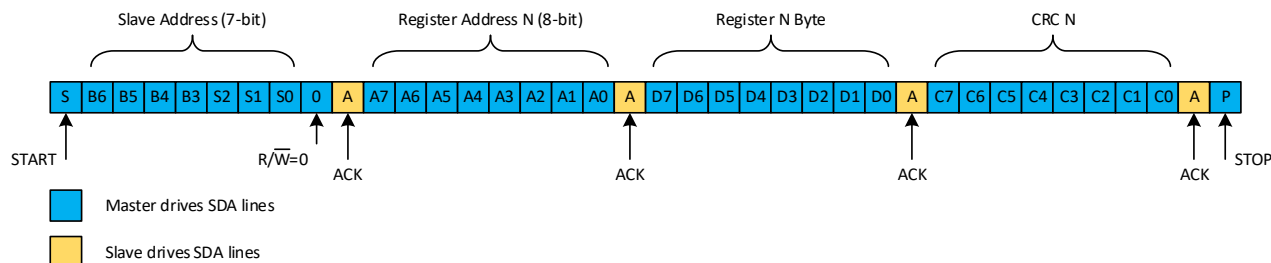

Figure 30: I²C Write with CRC
- If CRC is enabled (CRCEN = 1), the controller shall send the CRC after each value sent (Figure 30). If the controller does not send the CRC or sends a wrong CRC, the I²C Write is ignored and the IFAIL (Register 108) and I²C (Register 111) flags are set to 1.